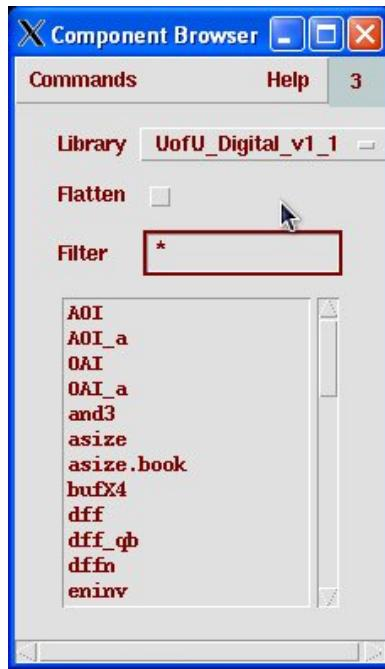

Figure 3.4: Component Browser dialog
4. Adding Instances: An instance (either a gate from the standard cell library, or a cell that you've designed earlier) can be placed in the schematic by selecting **Add → Instance** or pressing **i** on the keyboard, and the **Component Browser** dialog appears (shown in Figure 3.4). Choose a library from the **Library** list and then choose the cell from the list box and the outline of the component's symbol will appear when your cursor is in the schematic window. Left clicks will add instances of that cell to your schematic.